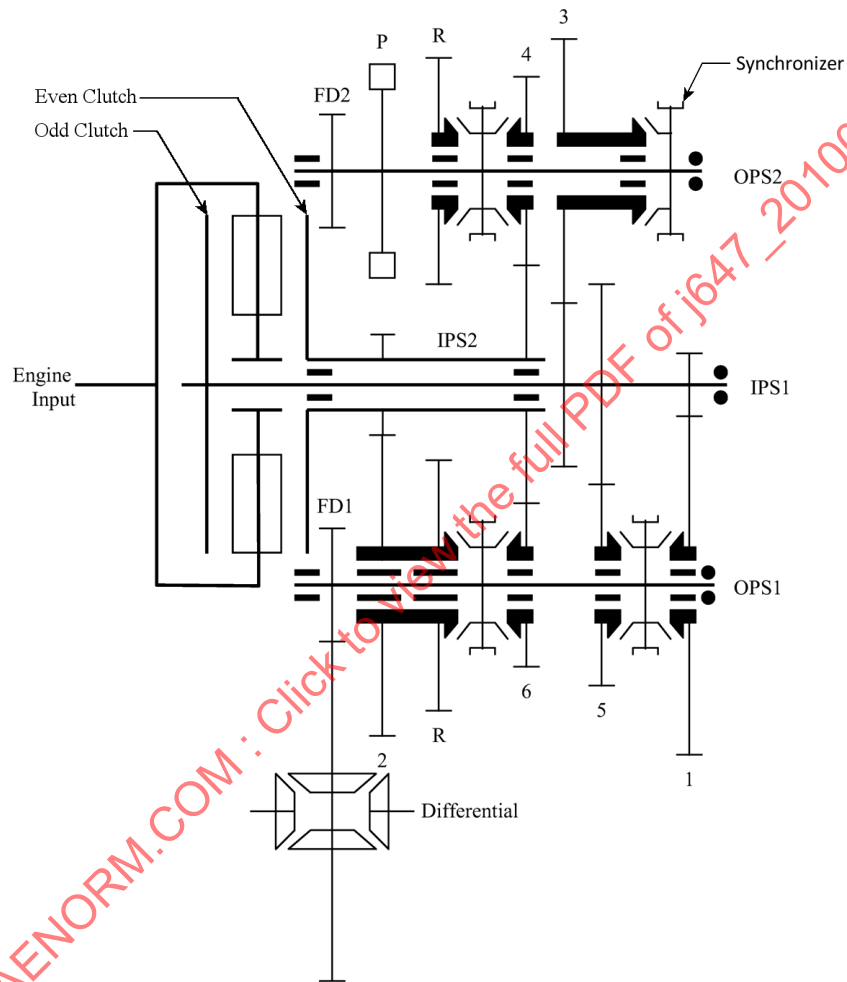
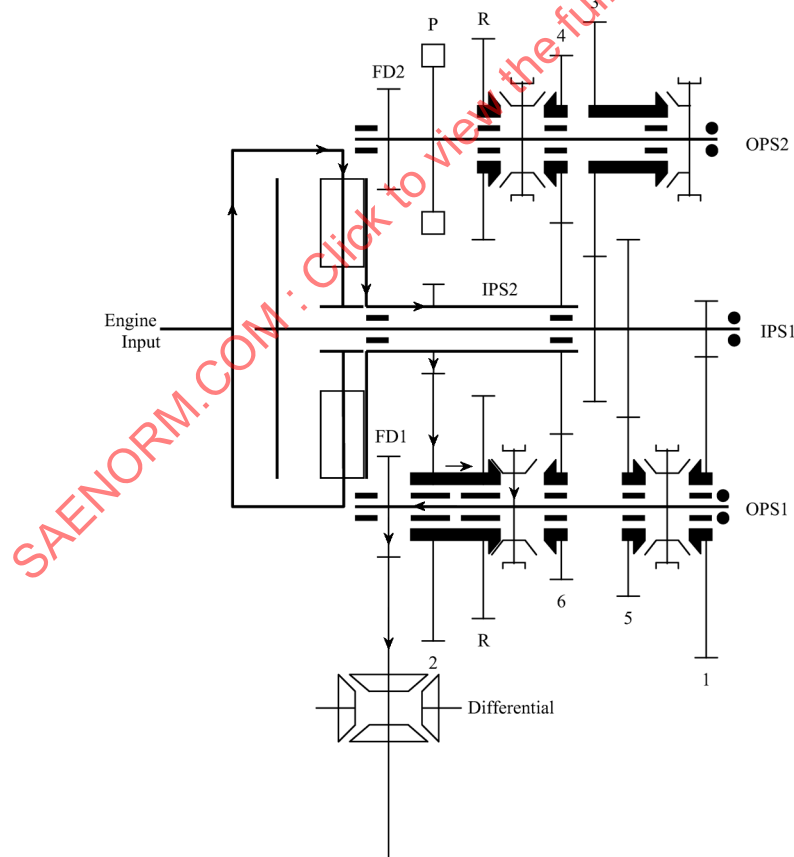

FIGURE 1 - SIX-SPEED DUAL CLUTCH TRANSMISSION DIAGRAM - NEUTRAL
FIGURE 8 - SIX-SPEED DUAL CLUTCH TRANSMISSION DIAGRAM - 2ND SPEED
Figure 1 illustrates a six-speed layshaft dual clutch transmission. Each gear is identified according to the particular transmission speed it provides when engaged, for example: 1st, 2nd, 3rd, and so forth.
4.1 Figures 8 and 9 illustrate a six speed dual clutch transmission and a four speed planetary gear transmission in gear (originally shown in Figures 1 and 2) engaged with the torque path denoted by straight bold arrows. Curved arrows indicate direction of shaft rotation. Active members are designated with sections crosshatched.
4.2 Dual Clutch Transmission (Figure 8)